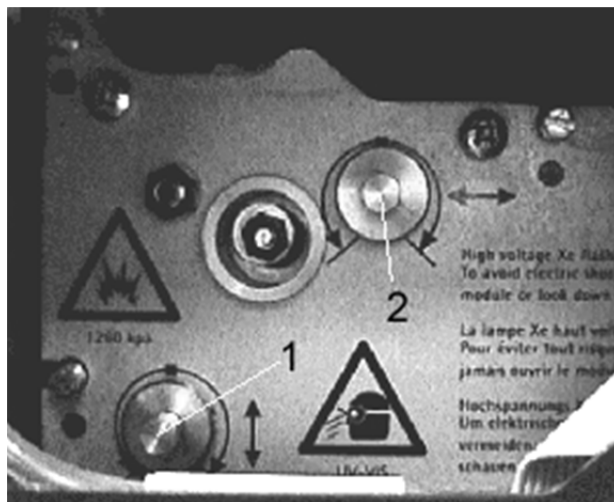
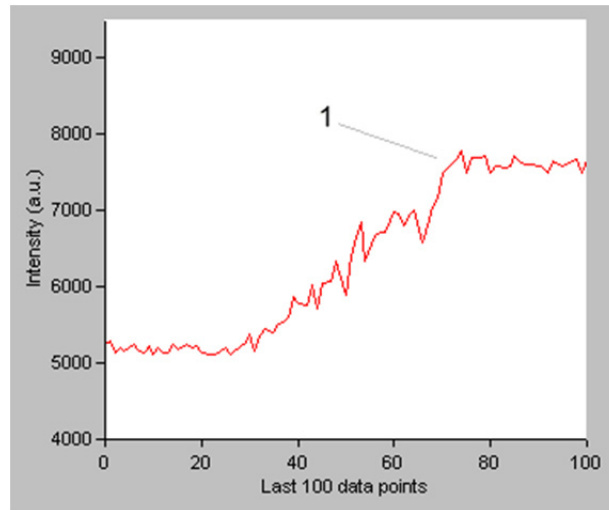

Figure 5. 1) Vertical adjustment screw 2) Horizontal adjustment screw
Figure 6. 1) Maximum signal level
- 8 Adjust the bottom left screw (vertical adjustment, labeled '1' in Figure 5) for maximum signal with the supplied 5.5 millimeter nut driver (you may need to adjust the y-axis scaling on the screen).
- 9 Adjust the top right screw (horizontal adjustment, labeled '2' in Figure 5) for maximum signal (see Figure 6) with the supplied 5.5 millimeter nut driver (you may need to adjust the y-axis scaling).